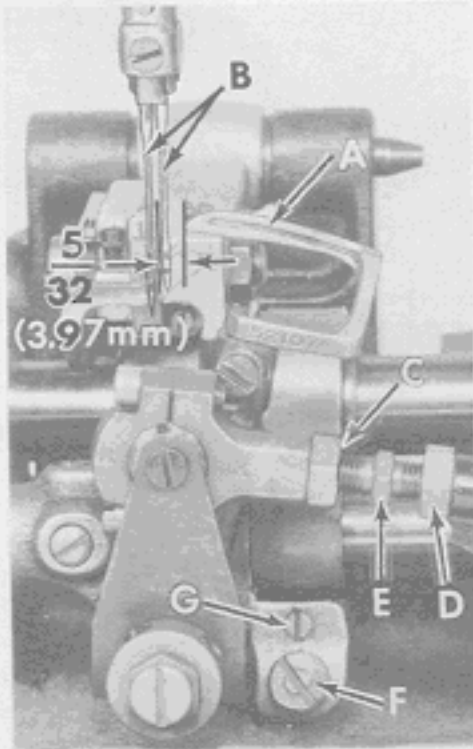

Fig. 6
Insert two new needles in the needle seat, type and size as specified. The looper gauge is $\frac{5}{32}$ inch (3.97 mm), set the looper (A, Fig. 6) so the distance between the center of the two needles (B) to the point of the looper is $\frac{5}{32}$ inch (3.97 mm), when the looper is at its farthest position to the right. Looper gauge No. 21225- $\frac{5}{32}$ can be used advantageously in making this adjustment.
If adjustment is required, loosen nut (C, Fig. 6) (it has a left hand thread) and nut (D) on connecting rod (E), turn the connecting rod forward or backward to obtain the $\frac{5}{32}$ inch (3.97 mm) dimension. Retighten both nuts, first nut (D). Then nut (C). Make sure the left ball joint is in vertical position and does not bind after adjustment.
If adjustment is necessary, loosen lock screw (F, Fig. 6) and turn stop screw (G) as required. Turning stop screw clockwise sets the looper to the rear and turning it counterclockwise acts the reverse. Holding looper to the front while making